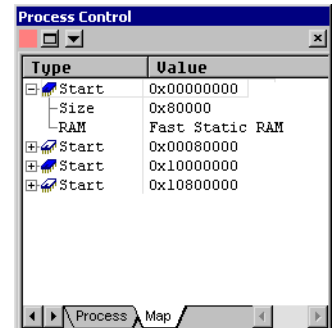

Figure 3-37 New memory block in the Map tab
11. Select **View** → **Memory Map tab** to view the **Map** tab, shown in Figure 3-37.